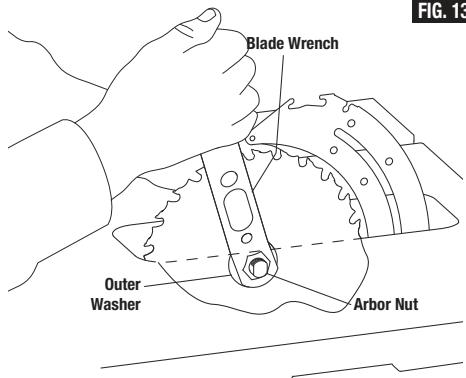

FIG. 13
4. While engaging the arbor lock lever, loosen arbor nut counter clockwise (to the front of the the saw table) with the wrench provided (Fig. 13).
8. While lifting up arbor lock lever securely, tighten the arbor nut clockwise (to the rear of the saw table) with the wrench (Fig. 13).